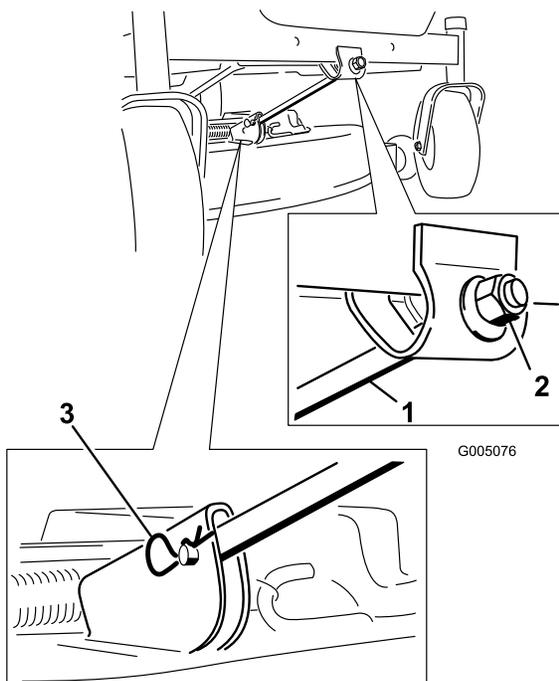

Figure 42
- Remove the hairpin cotter and clevis pin from the front support rod (Figure 42). Carefully lower the front of the mower deck to the ground.
- Attach the front support rod to the mower deck with the clevis pin and hairpin cotter (Figure 42).